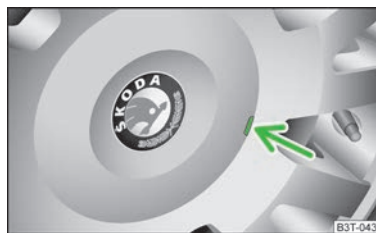

Fig. 168
- Carefully remove the wheel trim cap using the wire clamp from the vehicle tool kit » Fig. 168.